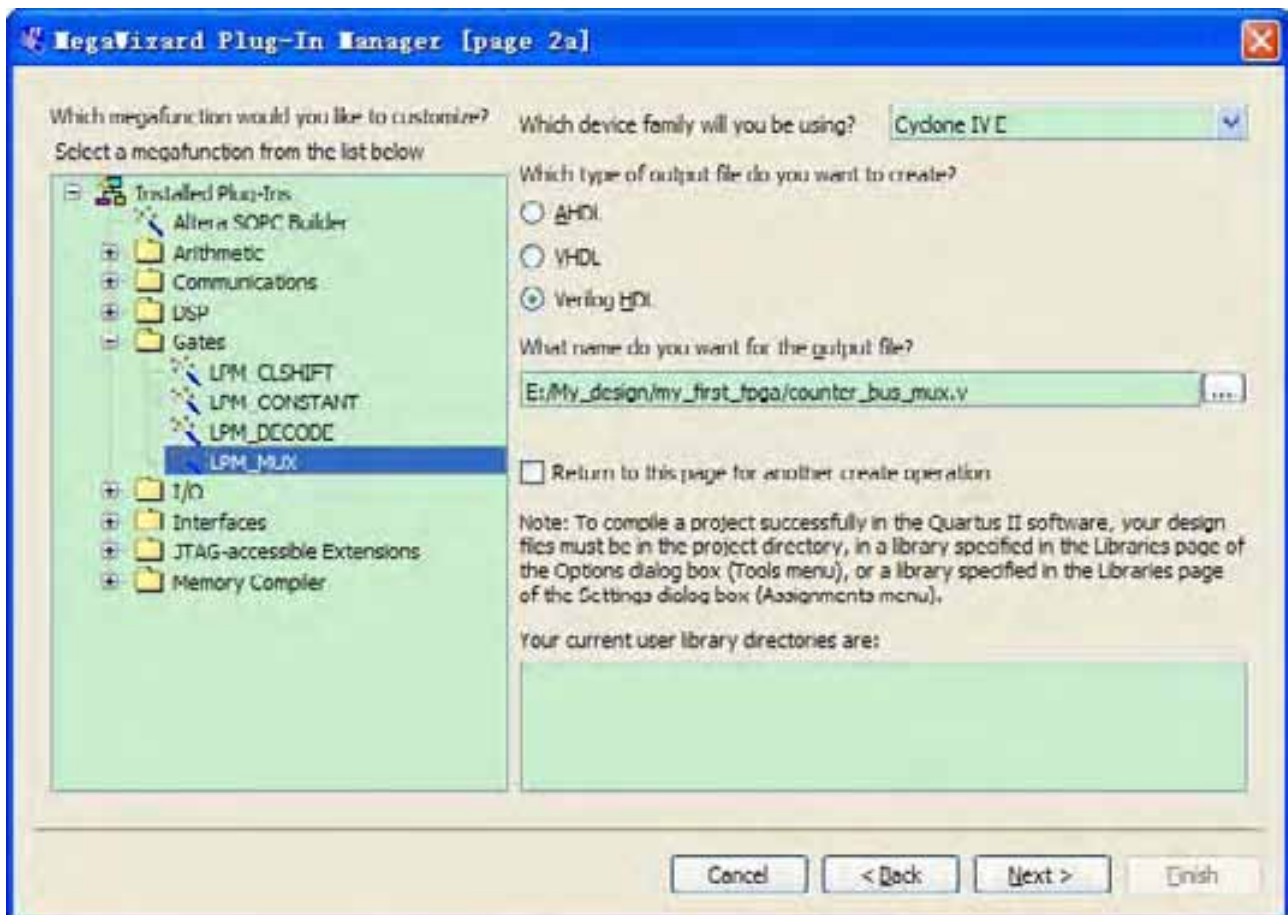

Figure 6-33 Selecting lpm_mux
5. Select the **Cyclone IV E** device family, **Verilog HDL** as the output file type, and name the output file **counter_bus_mux.v**, as shown in **Figure 6-33**.